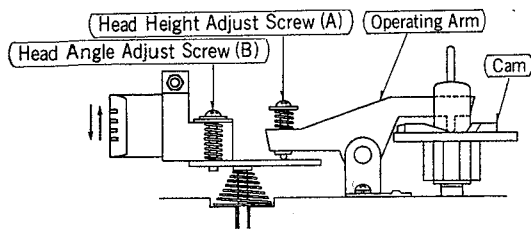

Fig. 3
3. Adjust the head angle adjust screw (B) shown in fig. 3 so that both output values become maximum simultaneously.
4. When turn the head height adjust screw (A) in fig. 3, confirm that the output varies as maximum → minimum → maximum as shown in fig. 14.
5. Set the adjust screw (A) at the minimum point.